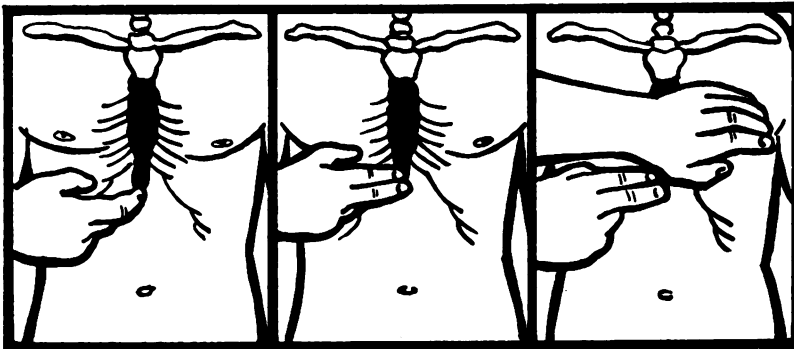

Figure 8.
(1) He will apply four quick, but full breaths to the victim to fill the lungs with oxygen (head must be tilted and airway open).
(2) He will apply 15 compressions of the chest at a rate of 80 counts per minute. To do this, the rescuer must locate the correct position for the hands. (If the hands are too high or too low on the chest, the heart will not be compressed.) To locate the correct position for the hand, first locate the tip of the breastbone and measure two finger-widths up from this tip. Place the heel of the other hand alongside the fingers (figure 8).